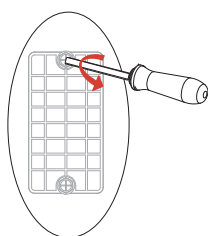

Figure 13a: Unscrew the cover
A. Unscrew the cover. (Figure 13a)